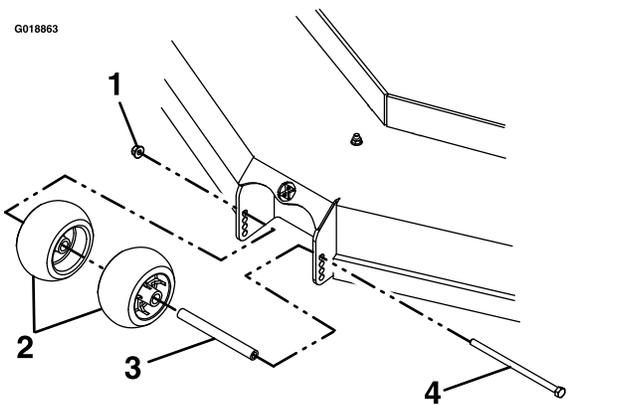

Figure 30
4. After adjusting the height of cut, adjust the anti-scalp rollers by removing the mounting hardware (Figure 30).
6. Torque the locknut (3/8 inch) to 41 to 47 N·m (30 to 35 ft·lb) as shown in Figure 30.